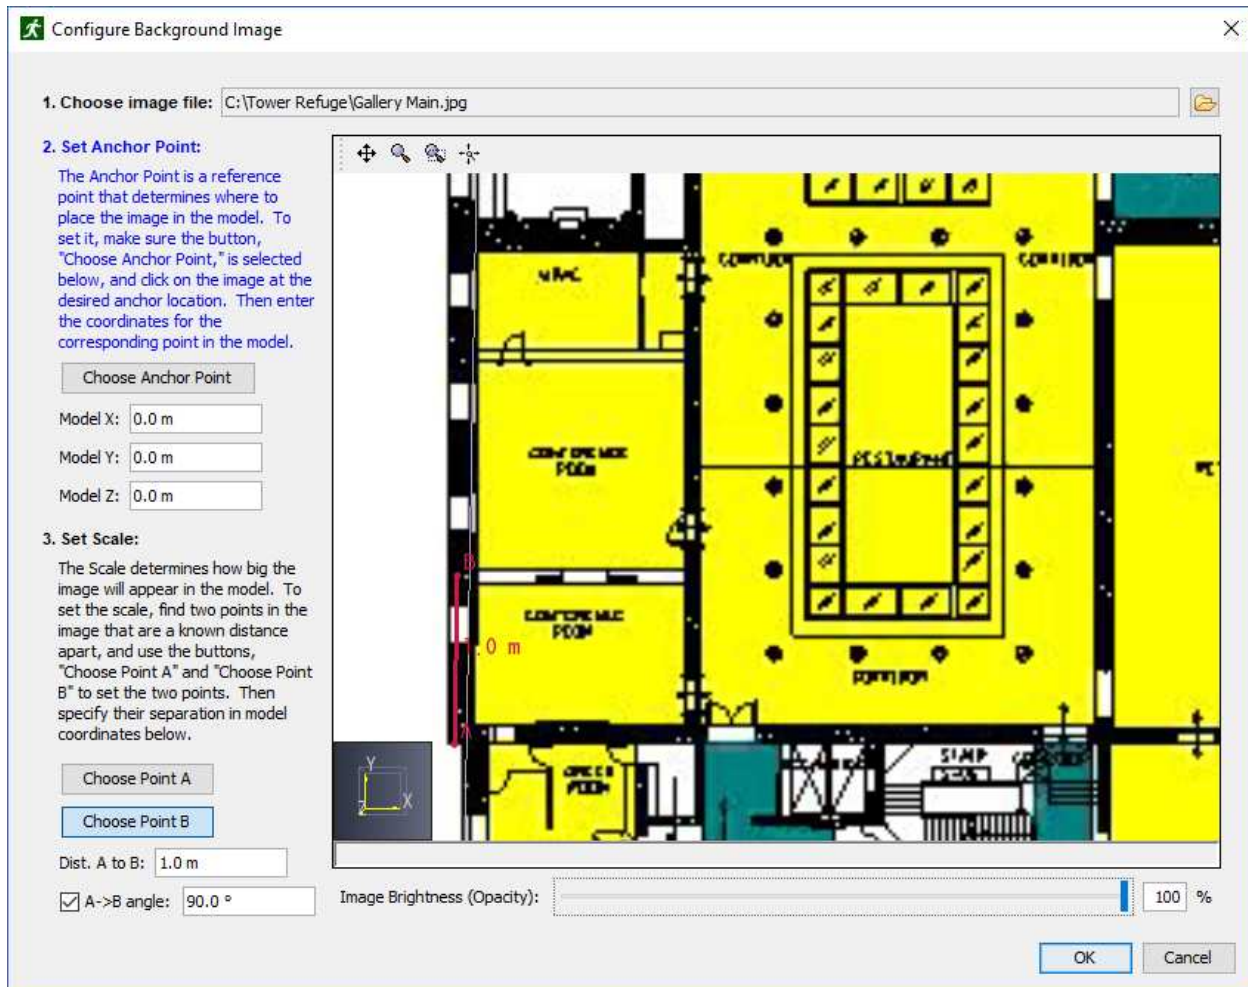

Figure 66. Set scaling points A and B
3. To specify the scaling for the image, two points, A and B, and a distance between them can be specified (Figure 66).